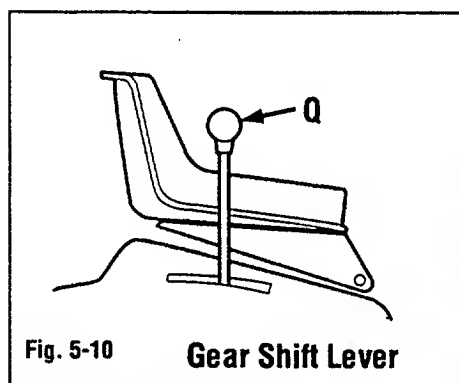

Fig. 5-10 Gear Shift Lever
Depress brake pedal and move gear shift lever (Q, Fig. 5-10) into desired position. Select from five forward speeds, neutral and reverse. Avoid fast travel speeds
**Gear Drive Units:** Place gear shift lever (Q, Fig. 5-10) into neutral position before pushing unit.